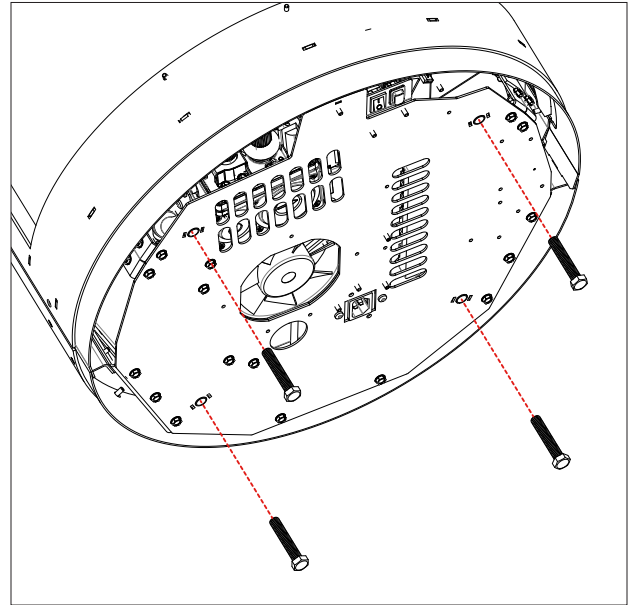

Figure 76: Pedestal bolt Removal
Remove the four (4) bolts from the bottom of the unit (see Figure 76). These bolts are used to install the pedestal.